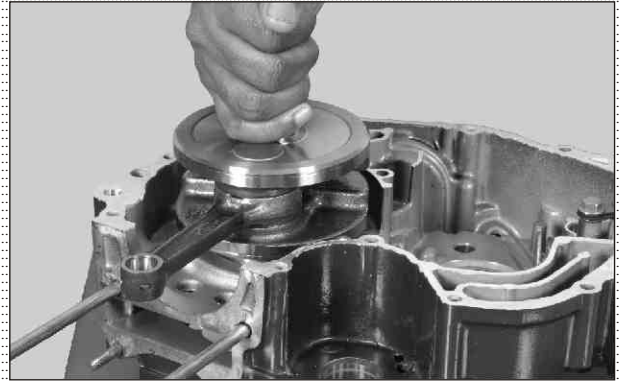

Fig. 3.172
- Assemble crankshaft assembly in the crankcase assembly L. (Fig. 3.172)